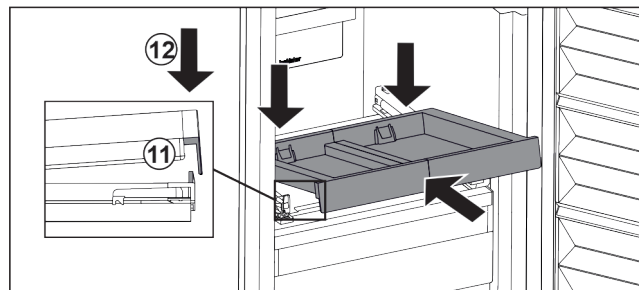

Fig. 34
- ▶ Slide it in at an angle. Make sure that the stop is behind the lug on both sides. Fig. 34 (11)
- ▶ Lower the pull-out board at the front. Fig. 34 (12)